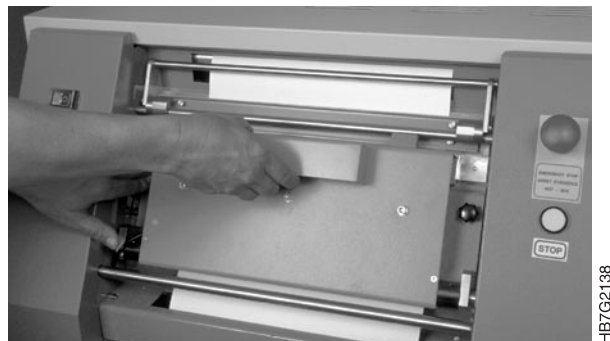

Figure 253. Closing the Splicing Table
7. Close the splicing table, as shown in Figure 253, pressing firmly to ensure that both edges are secure.